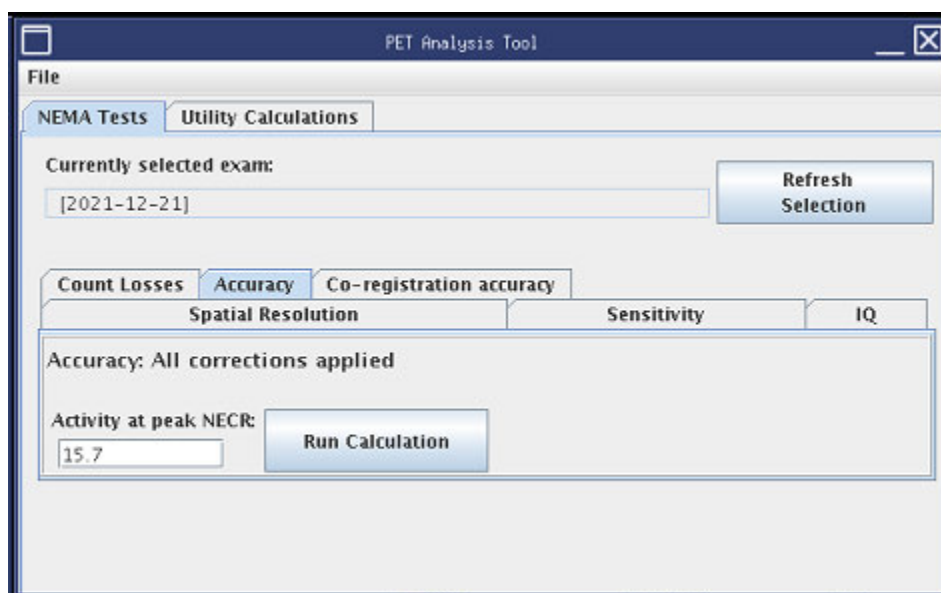
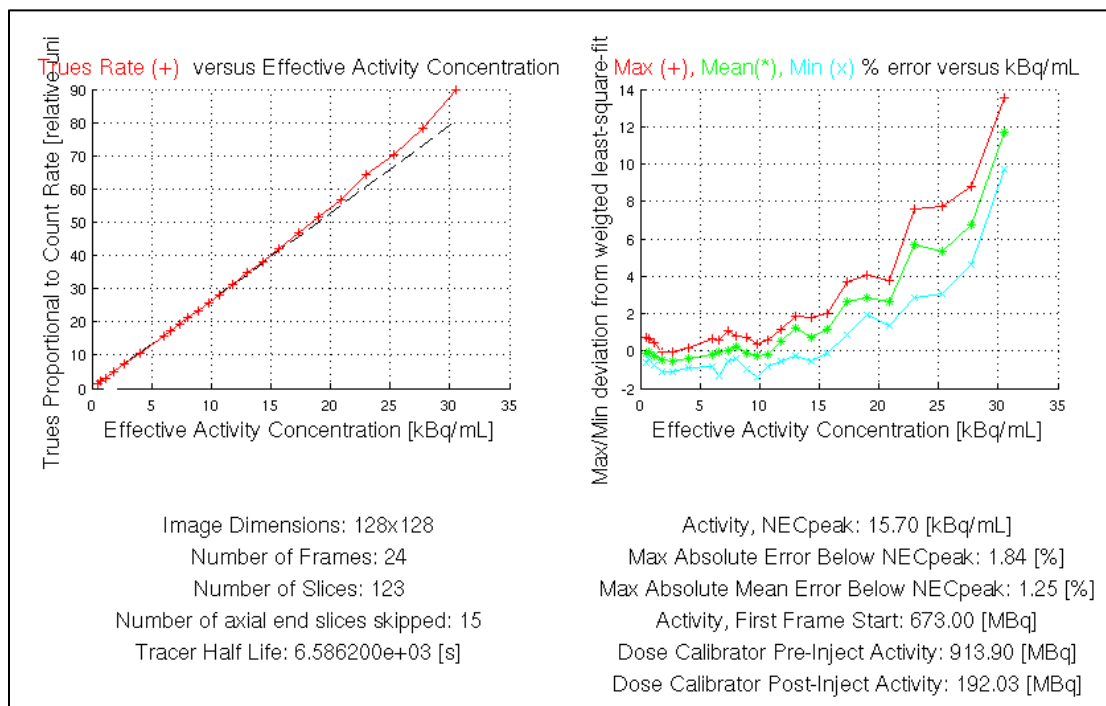

Figure 6.1: PET Analysis Tool - Accuracy Tab Selected
Figure 6.2: Count Loss Correction Accuracy Report obtained in Omni Legend (32 cm axial FOV).
9. Refer to Figure 6.1. Type the activity value at Peak NECR value you recorded during Step 11 in Section 5.5 into the Activity at peak NECR data field.
10. Refer to Figure 6.1. Click RUN CALCULATION. After several minutes of calculation, the system displays a screen similar to the one shown in Figure 6.2.